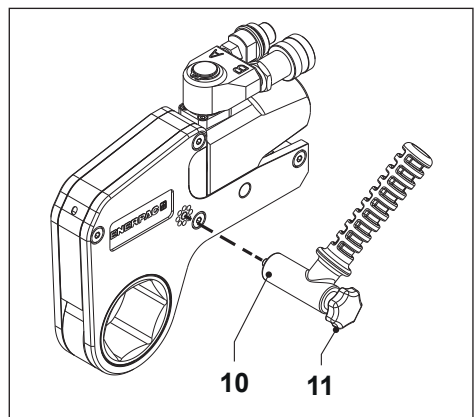

Fig. 3
3.2 To attach the positioning handle (Fig. 3)
- Secure the positioning handle (10) with thumb screw (11). Positioning handle can be installed on either side of wrench.